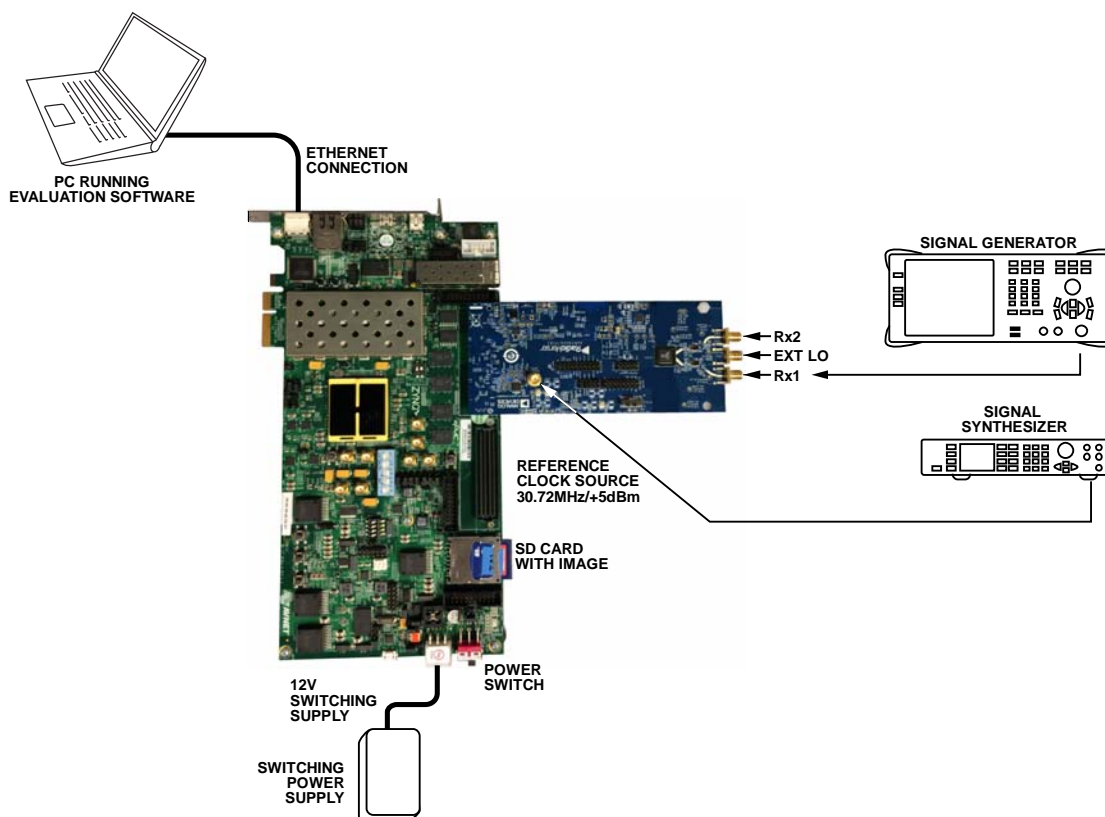
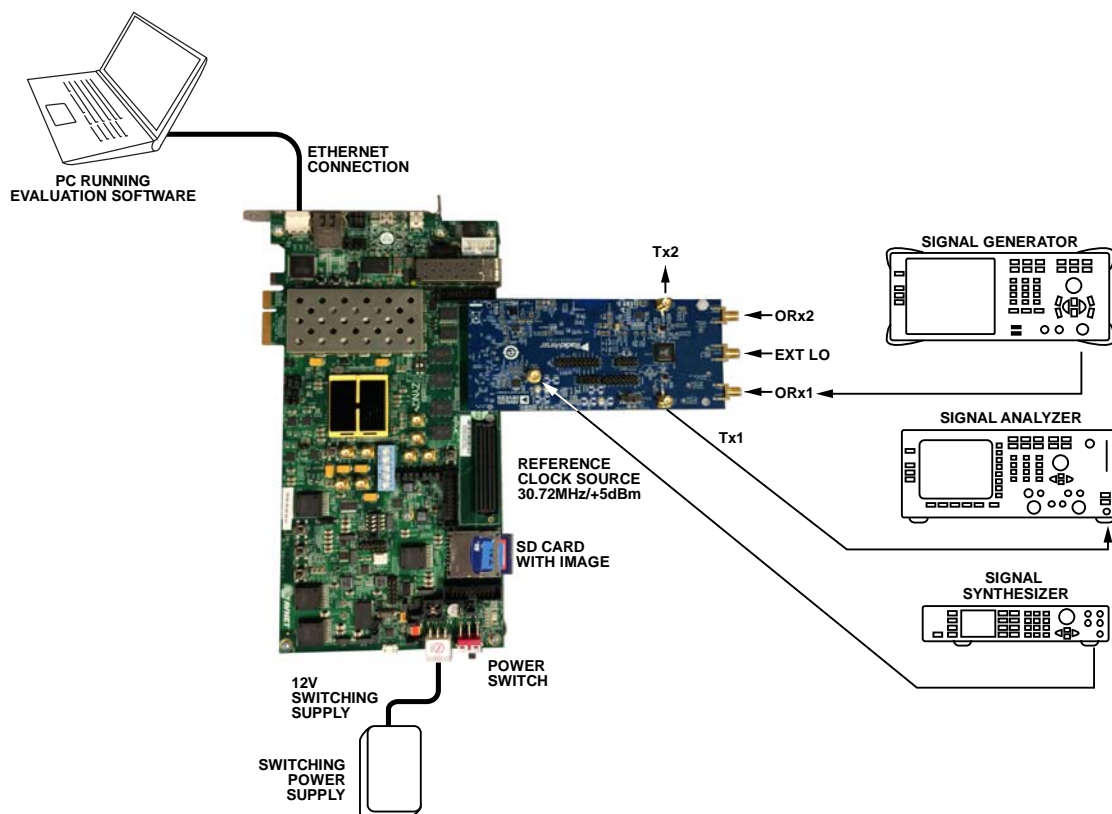
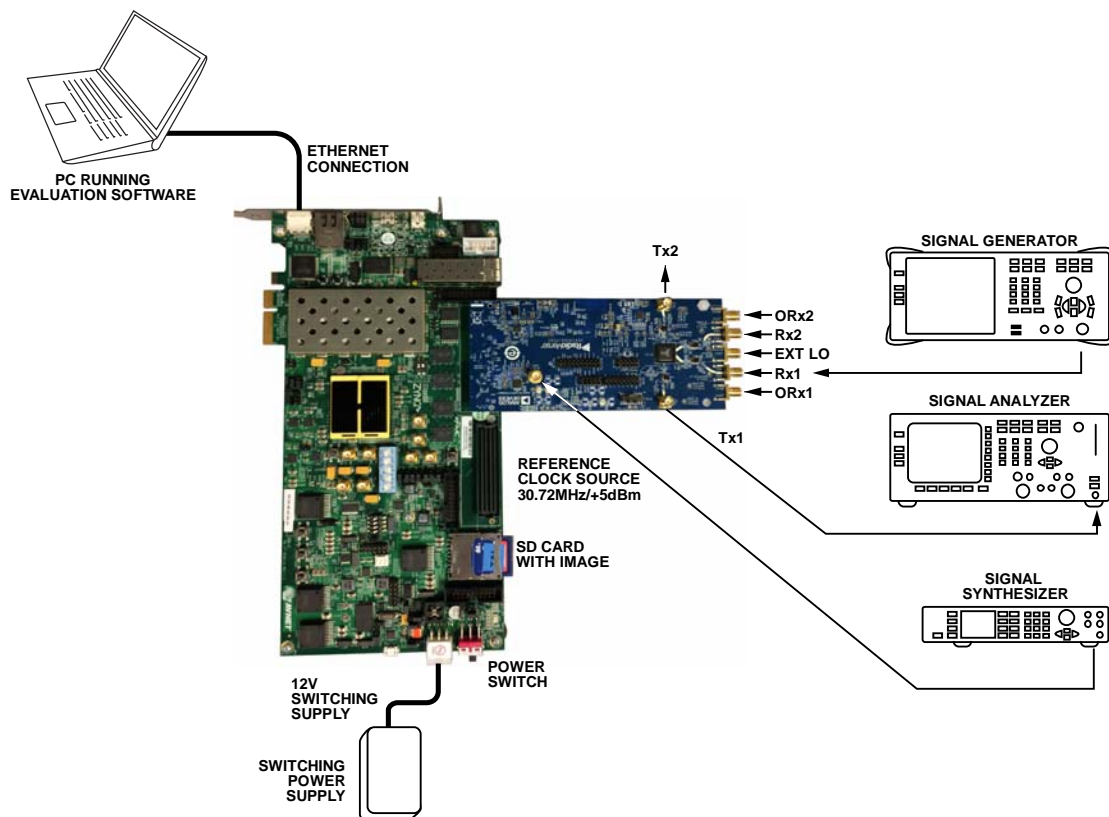

Figure 2. ADRV9008-1 Receiver Evaluation Board and Zynq Motherboard with Connections Required for Receiver 1 Testing
Figure 3. ADRV9008-2 Transmitter Evaluation Board and Zynq Motherboard with Connections Required for Transmitter 2 and Observation Receiver 1 Testing
Figure 4. ADRV9009 Time Division Duplex (TDD) Evaluation Board and Zynq Motherboard with Connections Required for Transmitter 2 and Receiver 1 Testing
The evaluation hardware setup is shown in Figure 2, Figure 3, and Figure 4.
1. Connect the ADRV9008-1, ADRV9008-2, and ADRV9009 evaluation board and the Zynq evaluation platform together as shown in Figure 2, Figure 3, or in Figure 4. Use the high pin count (HPC) FMC connector (J37). Ensure that the connectors are properly aligned.